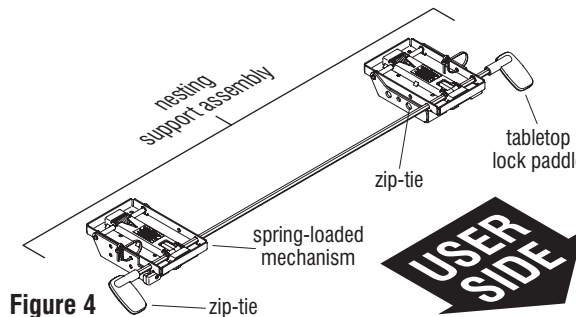

Figure 4
11. Carefully place the nesting support assembly on a soft, protective surface (Figure 4).
12. While facing the user side of the nesting support assembly, one side at a time, press down firmly on the top of the spring-loaded mechanism on the user side of the plate, then cut the zip-tie with a wire cutter and pull it out. While holding the mechanism down firmly, gently lift on the tabletop lock paddle, and release the holding pressure to open that side of the mechanism. Repeat the process for carefully cutting and removing the zip-tie, then actuating the tabletop lock paddle to open the mechanism at the other end of the support assembly. Take care to not actuate the tabletop lock paddles while cutting, which may release the spring-loaded mechanism quickly and cause personal injury (Figure 4 & Details E & F).